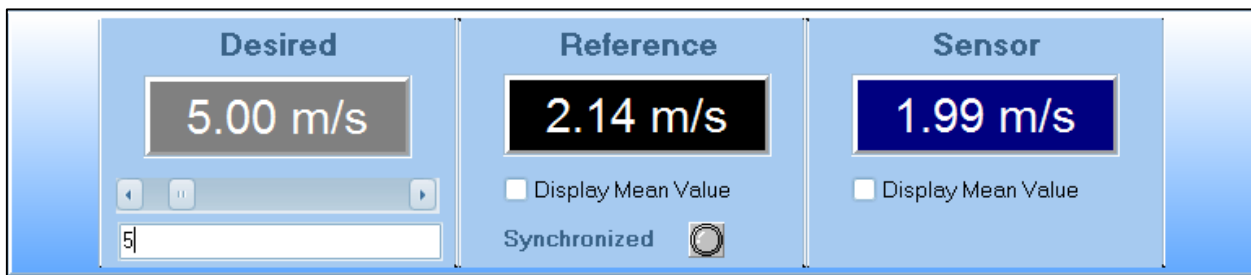

Figure 13: Setting Desired speed of Wind tunnel for normal measurement
1. At the main Window click into the **mask** at the panel of the *Desired speed of Wind tunnel* named **Desired** and set *manually* the Desired Speed of Wind Tunnel. Alternatively use the **regulating bar** (See Figure 13).